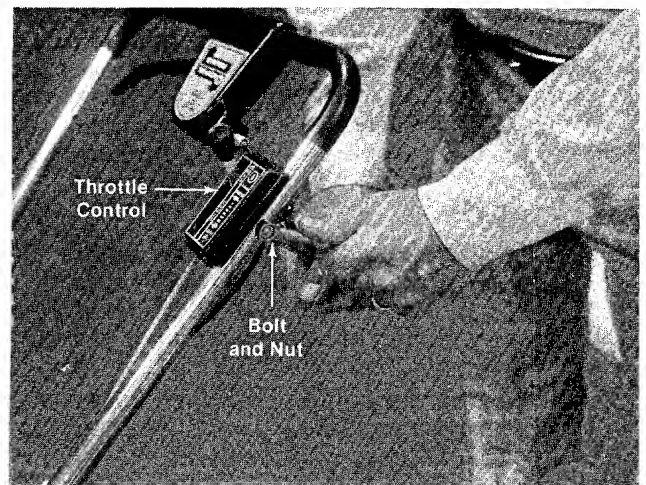

FIGURE 3
5. Assemble the throttle control to the upper handle with the nut and bolt. (See figure 3.)